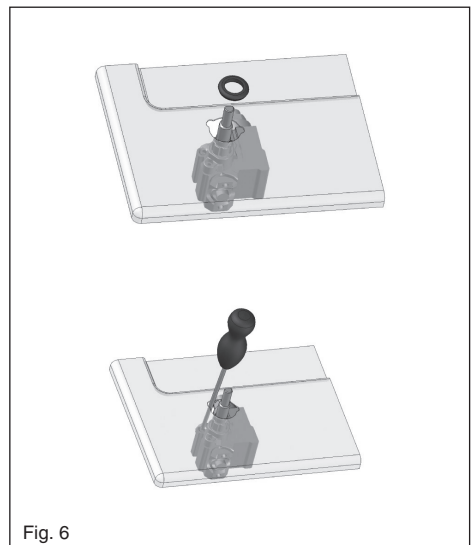

Fig. 6
- to adjust to the minimum, use a screwdriver on the screw placed on the tap (Fig. 6) after turning the tap to its minimum position. For **Universal LPG** screw tight.